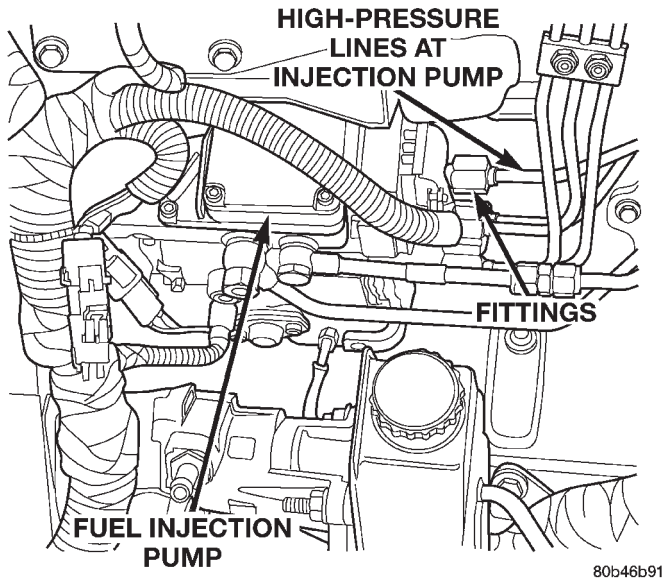

Fig. 61 High-Pressure Lines at Fuel Injection Pump
(17) Loosen high-pressure lines at injection pump (Fig. 61) beginning with cylinders 1, 2 and 4.